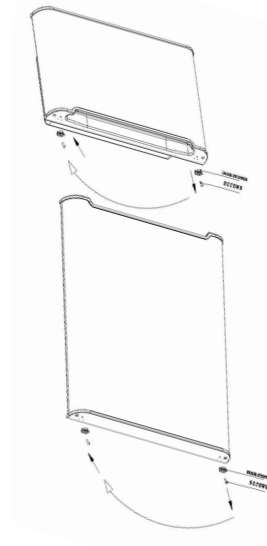

Fig. 3
- While doors are removed unscrew the door stoppers and re-insert on opposite side of door. (See Fig. 3)